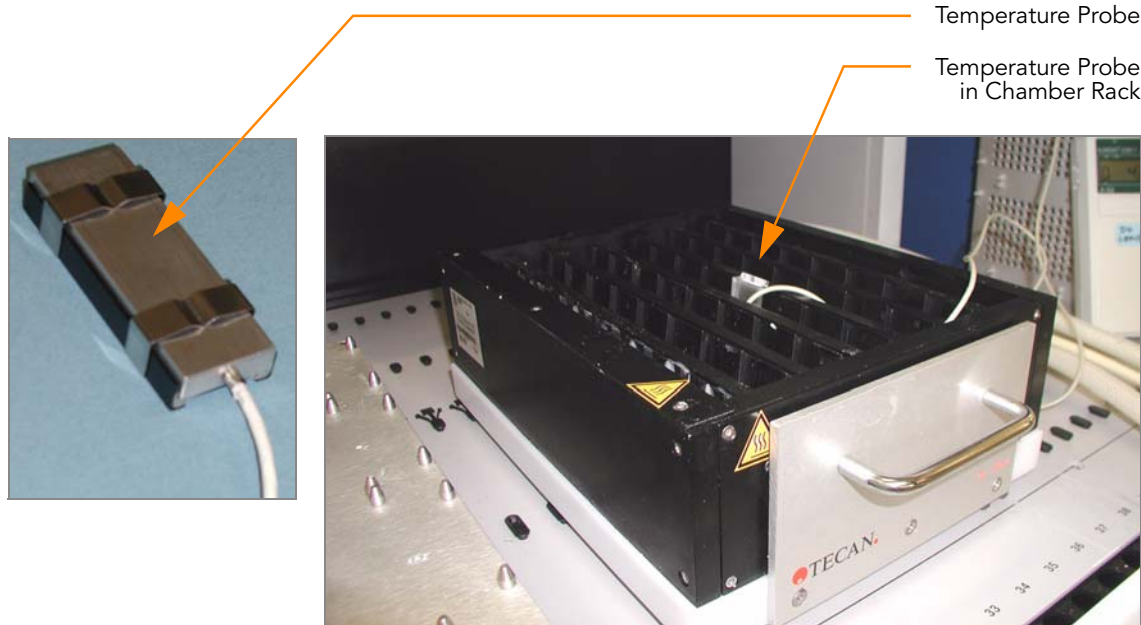

Figure 61 Illumina Temperature Probe in Chamber Rack
5. Use the Illumina temperature probe in several locations to ensure that the Chamber Rack is at 44°C (Figure 61).